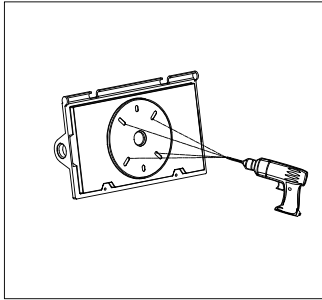
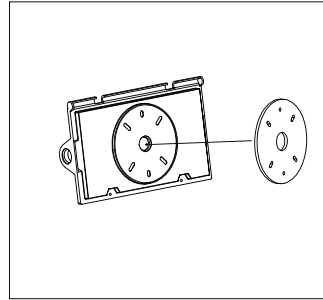

Figure 3
Figure 4
Step 2: Drill installation holes at the bottom of light, apply the EVA mat (Figure 3 & Figure 4) ;